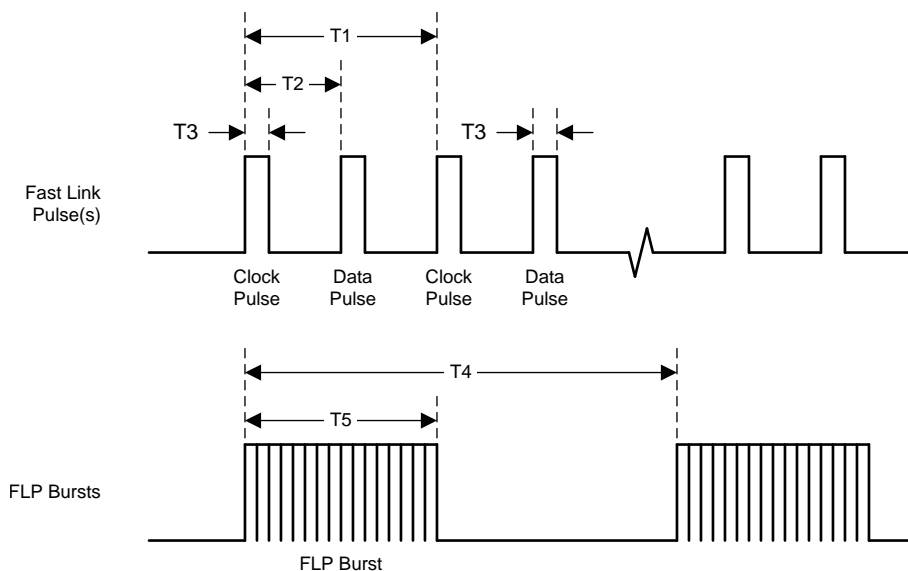

Figure 13. Fast Link Pulse Timing
- (1) Ensured by production test, characterization or design.
(2) See Figure 13.